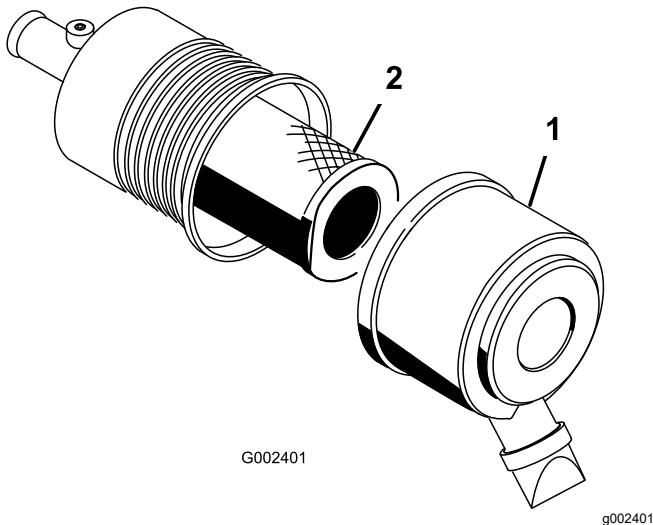

Figure 59
1. Release the latches on the air cleaner and pull the air-cleaner cover off the air-cleaner body (Figure 59).
3. Gently slide the filter out of the air-cleaner body (Figure 59).
5. Carefully slide the filter over the body tube (Figure 59).
6. Install the air-cleaner cover with the side facing up, and secure the latches (Figure 59).